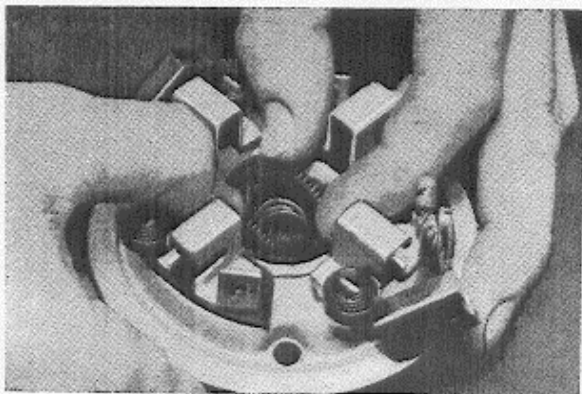
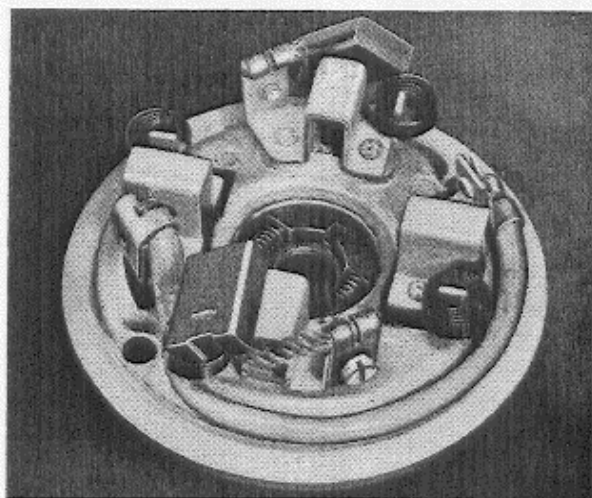

Fig. 60.
Fig. 61.
1. Fit the rotor brakes in the rear commutator end head, see Fig. 60, as will as the cables between the positive carbon brushes, as shown in Fig. 61.